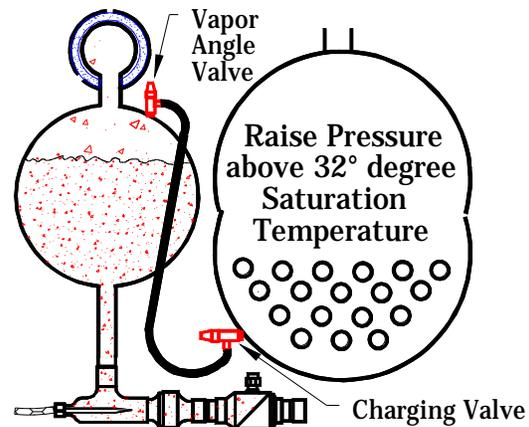

Figure 10. - *Breaking Vacuum in chiller*
7. Connect refrigeration hose between chiller charging valve and containment vessel vapor angle valve (see Figure 10).